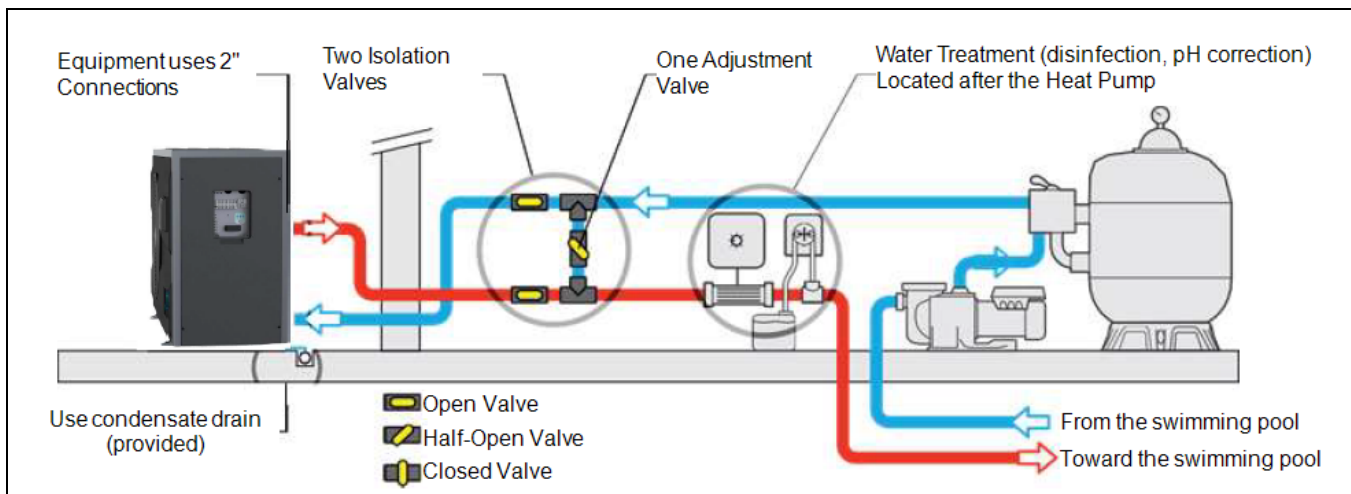

Figure 1
- Three valves must be installed before the heat pump; Two isolation valves, and one adjustment valve as indicated. See Figure 1.
- Open the 3 valves of the bypass (refer to the hydraulic diagram). See Figure 1 on page 10.